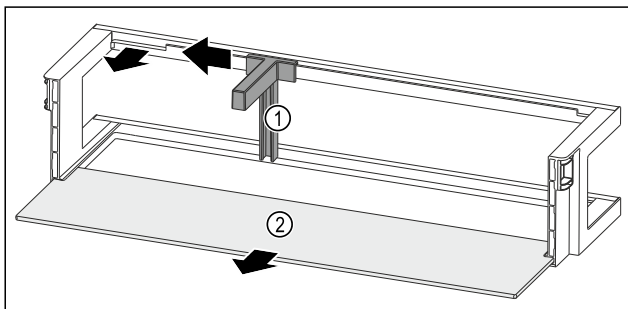

Fig. 203 Door rack with bottle holder and shelf
- ▶ Slide the bottle holder Fig. 203 (1) to the side as far as the recess.
- ▶ Remove the bottle holder Fig. 203 (1).
- ▶ Remove the shelf Fig. 203 (2).